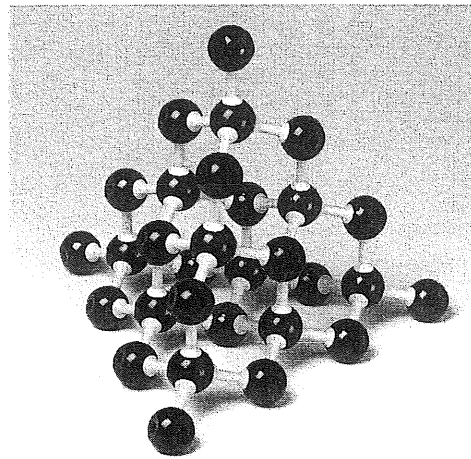

Figure 3.
3. The three dimensional structure of diamond, a crystalline form of the element carbon, is shown in Figure 3. Use this structure to explain why diamond is the hardest known material.